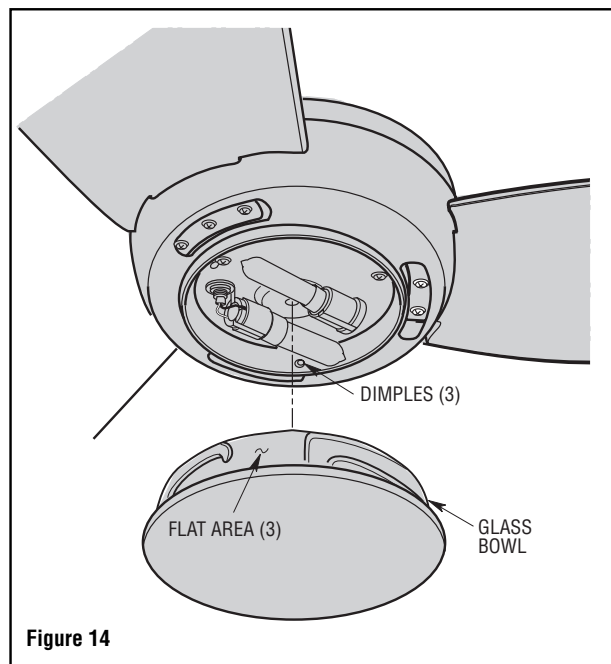

Figure 14
- Place the glass shade into the opening in the fan motor housing assembly, aligning the three flat areas on the top edge of the glass with the three raised dimples on the fan motor housing assembly and turn the glass shade clockwise until it stops (Figure 14).